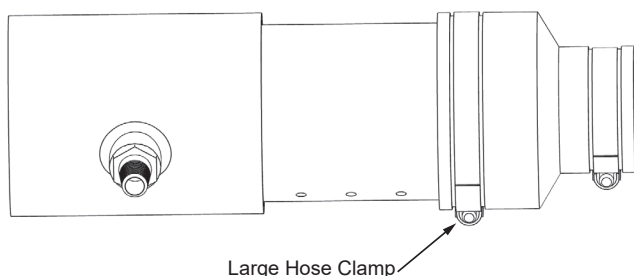

Figure 25. Intake Air Tee Fitting - Side View
3. Loosen the large hose clamp on the Fernco coupling that connects the intake-air connection pipe to the combustion blower. See **Figure 25** (page 31).